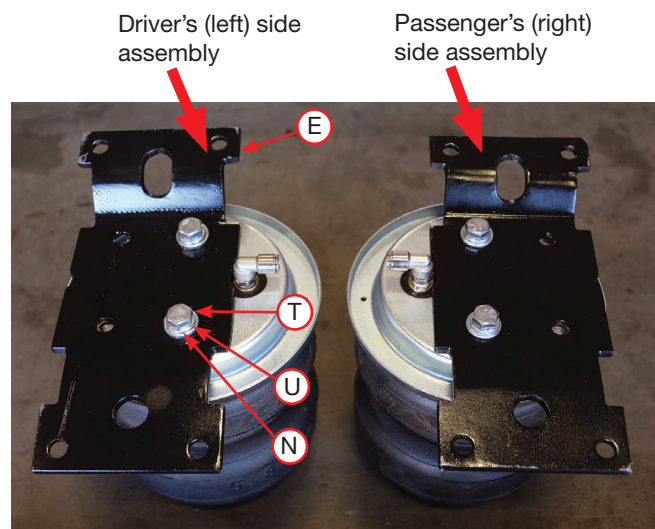

Fig. 14
2. Set the upper air spring bracket (E) onto the top of the air spring using one set of holes with the 3/8"-24 x 7/8" hex-cap screw (T), 3/8" lock washer (U), and 3/8" flat washer (N) (Fig. 14). Install the remaining air spring bracket onto the remaining air spring, using the opposite holes from those that were previously used. This makes the air spring assemblies into left- and right-hand units. Torque the hardware to no more than 20 lb.-ft. (27Nm).